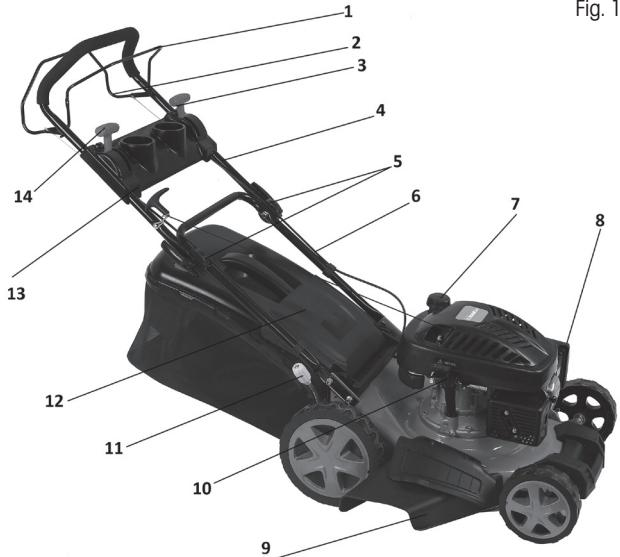

Fig. 1
3. DESCRIPTION OF THE LAWNMOWER (Fig. 1)
After unscrewing the fuel tank cap (Fig 1 – point 7), add the fuel, pouring it in all the way up to the collar of the fuel tank but do not overfill it.
The mowing height is set centrally using the central mowing height adjustment lever (Fig. 1 – point 11).